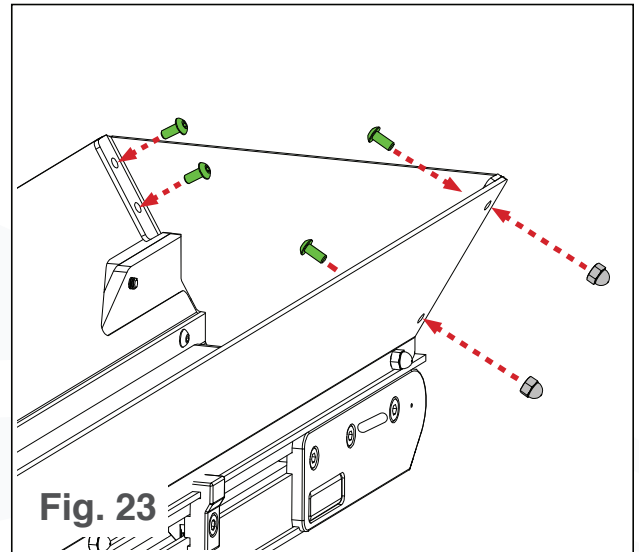

Fig. 23
2. Place all four 8-32 x  $\frac{3}{8}$ " bolts through the end plate and flares (see Fig. 23).
3. Using a  $\frac{3}{32}$ " hex key and a  $\frac{5}{16}$ " wrench, secure the 8-32 acorn nuts over the end of each bolt (see Fig. 23).